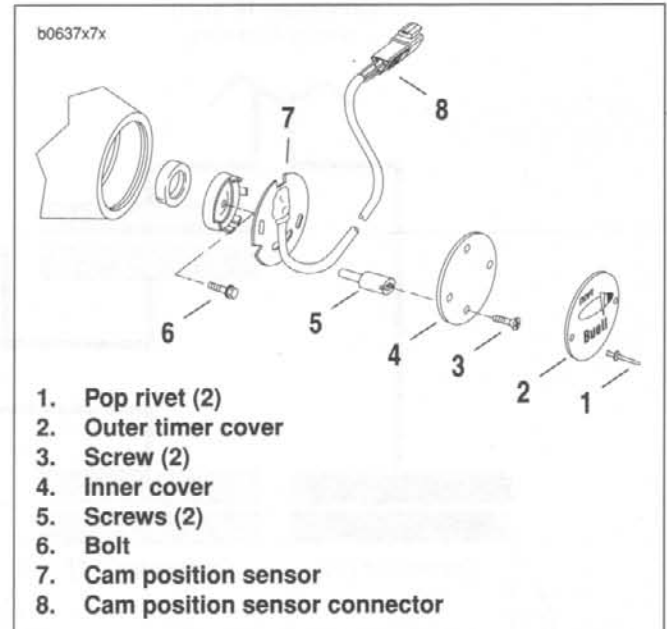
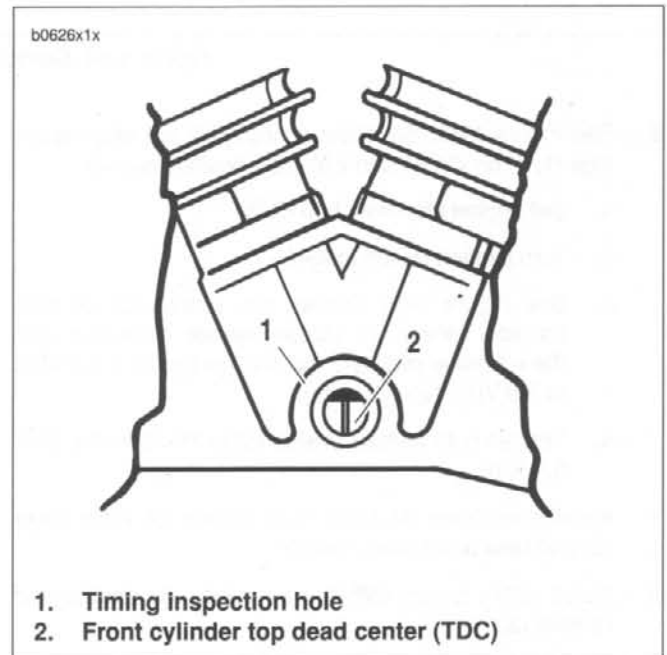

Figure 1-66. Timing Cover
Figure 1-67. Timing Marks
1. See Figure 1-66. Locate outer timer cover (2) at bottom of gearcase cover on right side of vehicle.
- a. Drill off heads of outer timer cover rivets (1) using a 1/8 inch drill bit. Use a punch to tap rivet shafts inboard through holes in outer timer cover. Remove outer timer cover (2).
- b. Remove two Phillips screws (3) to free inner timer cover (4). If necessary, tap remaining rivet shafts through holes in inner timer cover.
- b. See Figure 1-67. Rotate rear wheel until TDC mark (2) is centered in timing inspection hole (1).
- c. See Figure 1-66. Loosen two screws (5) on cam position sensor (7). Rotate sensor clockwise until the voltmeter registers the change from 0.0-1.0 VDC to 5.0 VDC (+/- 0.5 volts).
- d. Tighten both sensor screws (5) to 15-30 **in-lbs** (1.7-3.4 Nm).
7. Install inner cover (4), inner cover screws (3), outer cover (2) and **new** outer cover rivets (1).